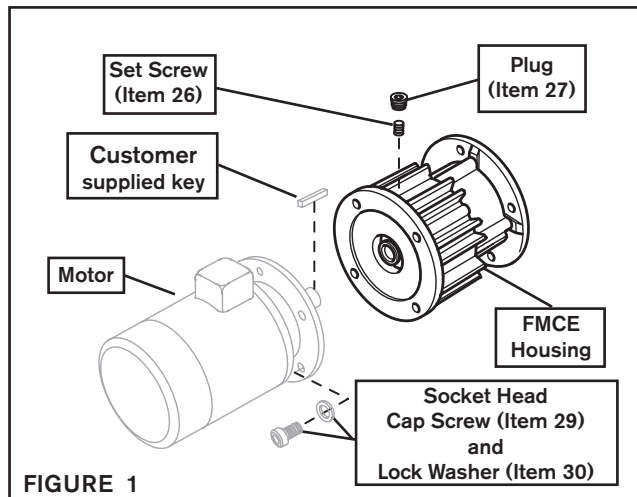

FIGURE 1
1. Insert the customer supplied key into the motor shaft keyway (See Figure 1).
2. Slide the FMCE onto the motor shaft and secure it to the motor using Nexen supplied Socket Head Cap Screws (Item 29) and Lock Washers (Item 30) (See Figure 1).
4. Align the Set Screw (Item 26) in the Drive Disc (Item 4) with the hole in the FMCE Housing (See Figure 1).
5. Tighten the Set Screw (Item 26); then, install the Plug (Item 27) (See Figure 1).